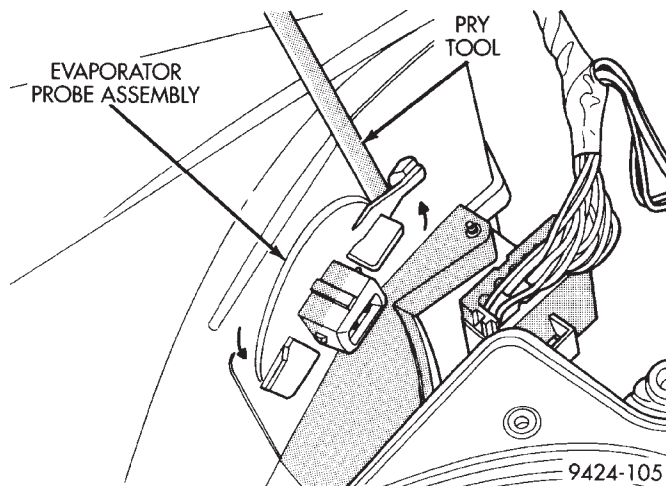

**Fig. 67 Evaporator Probe**
(12) Remove wiring at evaporator temperature probe.
(13) Using a screwdriver, pry up on tab at evaporator probe (Fig. 67). Twist probe counterclockwise and push tab into the housing.